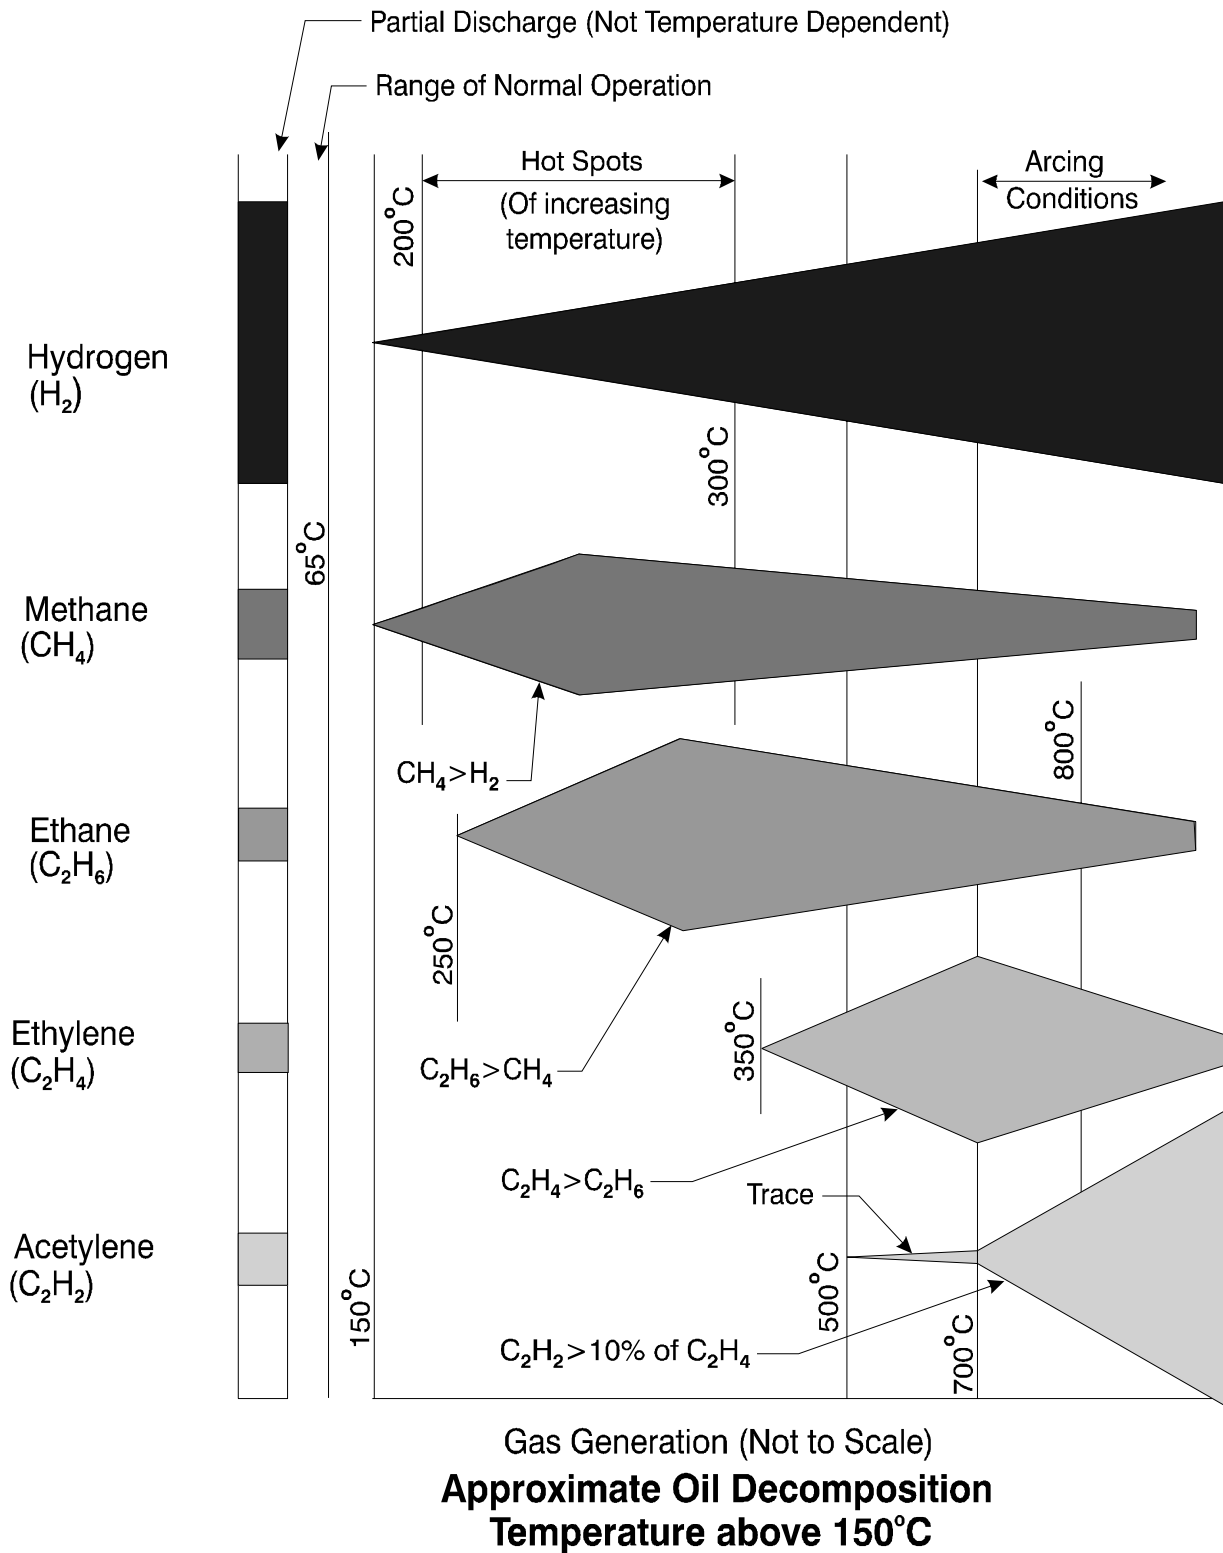

Figure 18.—Combustible Gas Generation Versus Temperature.
In the gas generation chart (figure 18) [13, 16] and discussion below, please note that temperatures at which gases form are only approximate. The figure is not drawn to scale and is only for purposes of illustrating temperature relationships, gas types, and quantities. These relationships represent what generally has been proven in controlled laboratory conditions using a mass
4.4.5 Rogers Ratio Method of DGA. Rogers Ratio Method of DGA [18] is an additional tool that may be used to look at dissolved gases in transformer oil. Rogers Ratio Method compares quantities of different key gases by dividing one into the other. This gives a ratio of the amount of one key gas to another. By looking at the Gas Generation Chart (figure 18), you can see that, at certain temperatures, one gas will be generated more than another gas. Rogers used these relationships and determined that if a certain ratio existed, then a specific temperature had been reached. By comparing a large number of transformers with similar gas ratios and data found when the transformers were examined, Rogers could then say that certain faults were present. Like the Key Gas Analysis above, this method is not a "sure thing" and is only an additional tool to use in analyzing transformer problems. Rogers Ratio Method, using three-key gas ratios, is based on earlier work by Doerneburg, who used five-key gas ratios. Ratio methods are only valid if a significant amount of the gases used in the ratio is present. A good rule is: **Never make a decision based only on a ratio if either of the two gases used in a ratio is less than 10 times the amount the gas chromatograph can detect (12).** (Ten times the individual gas detection limits are shown in table 9 and below.) This rule makes sure that instrument inaccuracies have little effect on the ratios. If either of the gases are lower than 10 times the detection limit, you most likely do not have the particular problem that this ratio deals with anyway. If the gases are not at least 10 times these limits, this does not mean you cannot use the Rogers Ratios; it means that the results are not as certain as if the gases were at least at these levels. This is another reminder that DGAs are not an exact science and there is no "one best easy way" to analyze transformer problems. Approximate detection limits are as follows, depending on the lab and equipment: